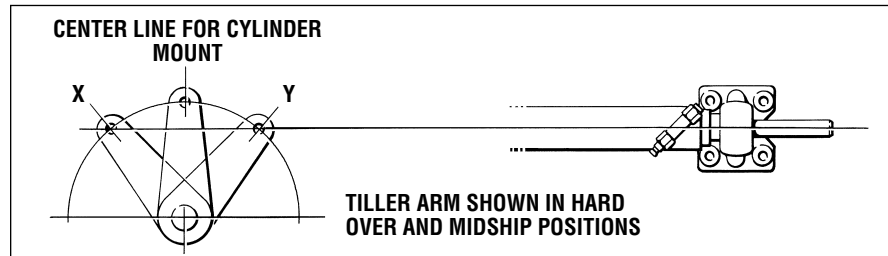

Figure 2.
- b) **Tiller arm length is already set:** draw an imaginary line through the tiller arm hole at both hard over positions and align the cylinder with this line, as shown in figure 2. Angles X and Y should be the same at both hard over positions. Alternatively, you can calculate dimension B from the equation below: